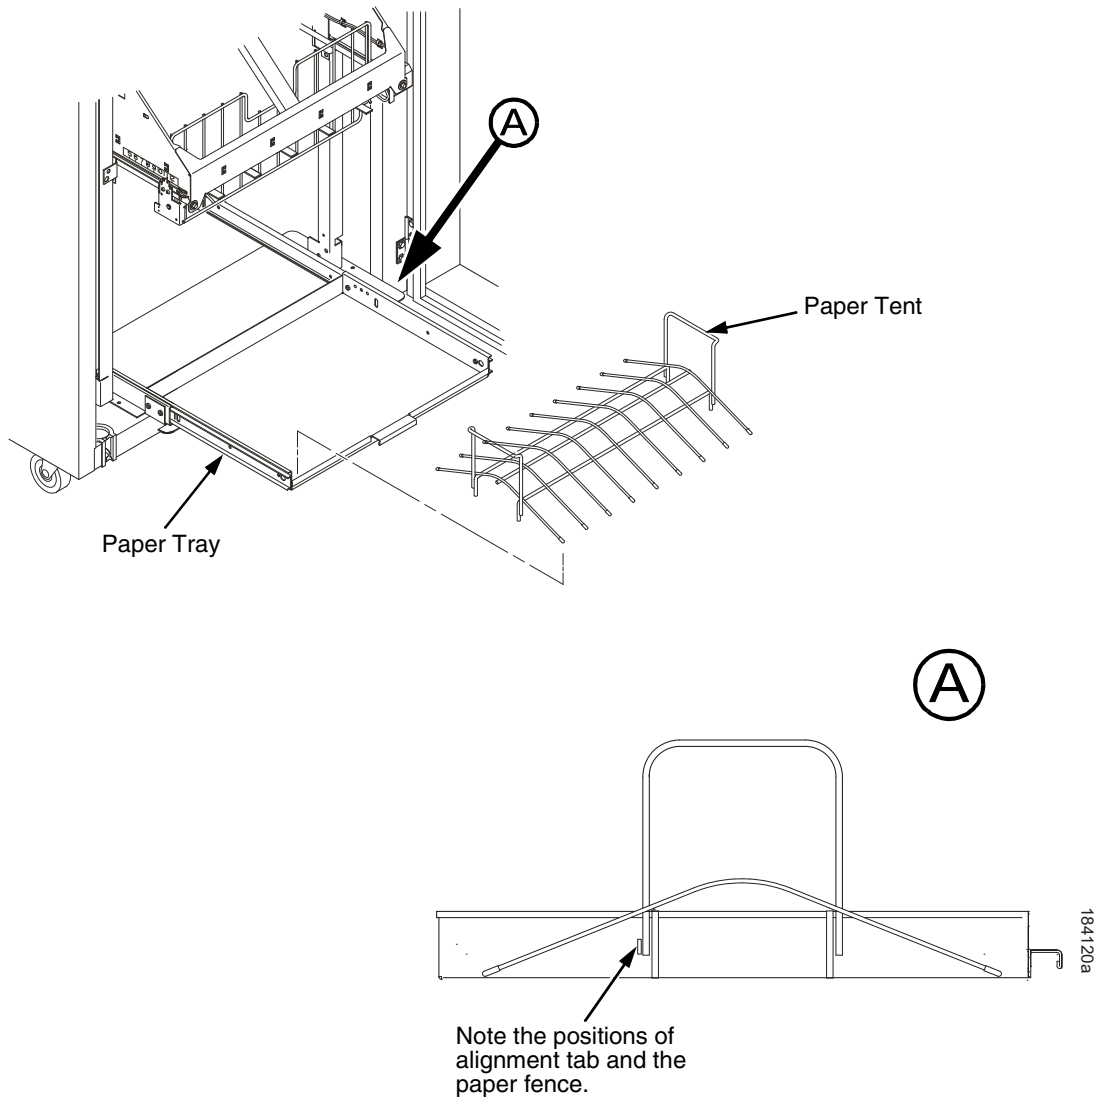

Figure 69. The Paper Tent
4. If the paper you will use is not wider than 15.5 inches (39.5 cm) pull out the paper tray and install the wireform paper tent. (Figure 69.) If the paper is wider than 15.5 inches (39.5 cm) leave the paper tent out of the printer.